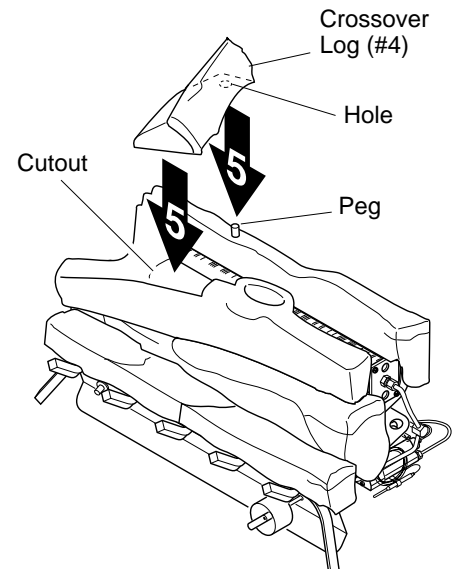

Figure 25 - Installing Crossover Log (#5)
5. Place the crossover log (#5) on the back log and the top middle log. Make sure the peg on the rear log is in the hole in the bottom of the crossover log. The crossover log should fit in the cutout of the top middle log (see Figure 25).